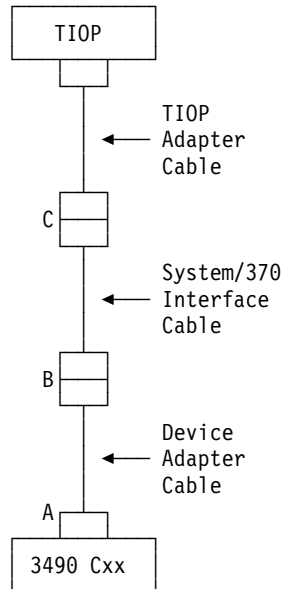

Figure 21. Tape Subsystem Cable Connections
28. The tape subsystem cables connect as shown in Figure 21.
- Disconnect the device adapter cable from the I/O device control unit (at **A** in Figure 21).
- b. Disconnect the System/370 interface cable from the device adapter cable (at **B** in Figure 21 on page 662).
- Disconnect the TIOP adapter cable from the System/370 interface cable (at **C** in Figure 21 on page 662).